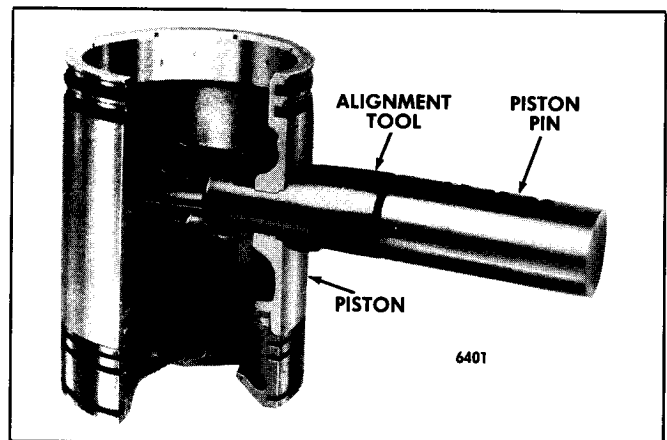

Fig. 14 - Installing Piston Pin using Alignment Tool J 35619
5. Lubricate the piston pin with clean engine oil and install it (Fig. 14).